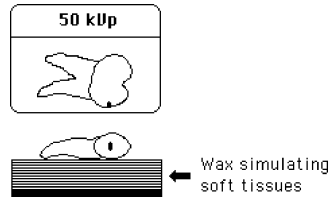

Figure 2-3. Use of a tooth with a small cavity reveals the clinical significance of altering the tube voltage.
2. IIIa Repeat the exercise using a tooth with a small artificial cavity with the following settings and appropriate marker (50 kVp) (Figure 2-3):